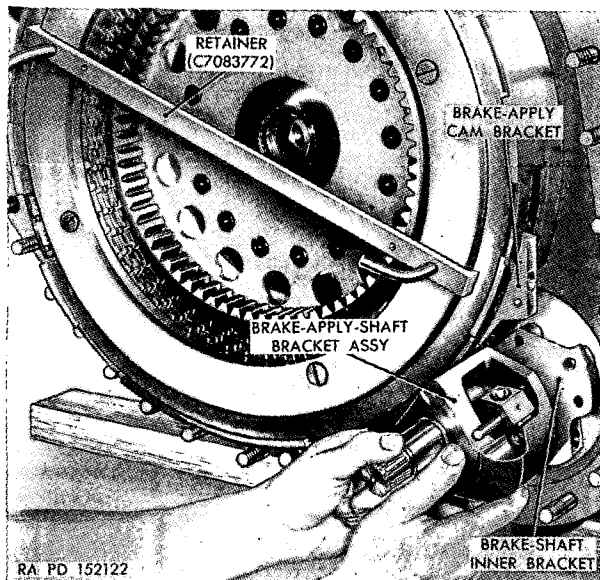

Figure 383. Installing brake-apply shaft bracket.
88). Secure the bracket to the ring with two $\frac{5}{16}$ -inch bolts torqued 17 to 20 pound-feet. Install the brake-shaft inner bracket on the right end plate with the bearing side out. Install the brake-apply shaft bracket on the two dowel pins on the inner bracket (fig. 383). Secure the brake-apply shaft bracket to the end plate with four $\frac{5}{16}$ -inch bolts torqued 33 to 40 pound-feet.